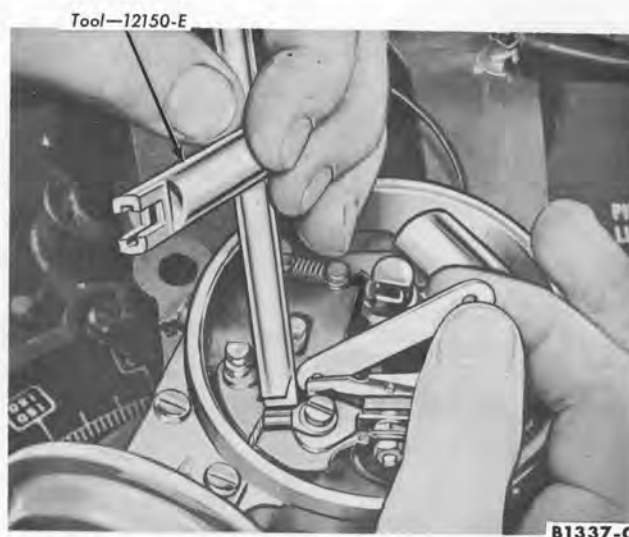

FIG. 10—Adjusting New Breaker Point Gap
2. Insert the correct blade of a clean feeler gauge between the breaker points (Fig. 10). The gap should be set to the larger opening (0.026 inch) because the rubbing block will wear down slightly while seating to the cam. If the fit is loose,
loosen the stationary point lock screw and adjust the gap (Fig. 10).